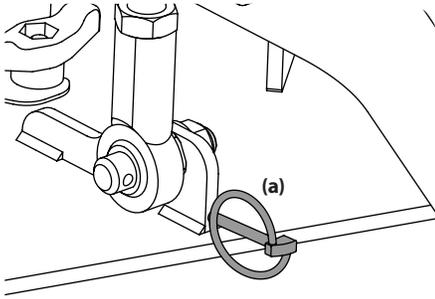

Figure 4-13
- Remove the four lynch pins (a) that secure the deck to the deck lift assembly. See Figure 4-13.